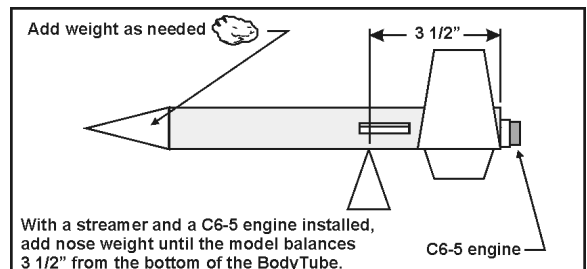

Figure 20
21. Taking the **Clay Weight**, roll it into an irregular ball and insert into the tip of the Nose Cone. **NOTE: Do NOT omit this added weight. This model rocket will NOT be stable without this added weight!** To verify the proper amount of nose weight, pack the streamer into the body, place the Nose Cone onto the Body Tube and place a **new C6-5** motor into the Engine Tube and balance it as shown in **Figure 20**. The balance point should be about 3 1/2" from the bottom of the Body Tube (+/- 1/2"). Add or remove clay, as necessary, to achieve this balance point. Once you've found the proper balance point, apply a film of glue over the clay, securing it inside the Nose Cone.